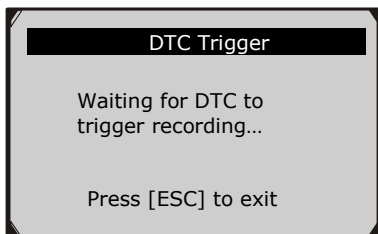

Figure 5.25
- If **DTC Trigger** is selected, following screen shows: (Figure 5.25)